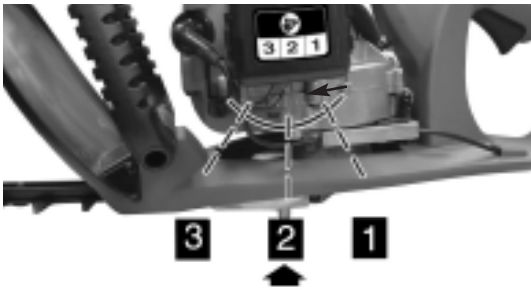

Fig. 8
1. Move ignition switch to the "RUN (I)" position.
2. Place choke in PARTIAL CHOKE "2" position (Figure 8).